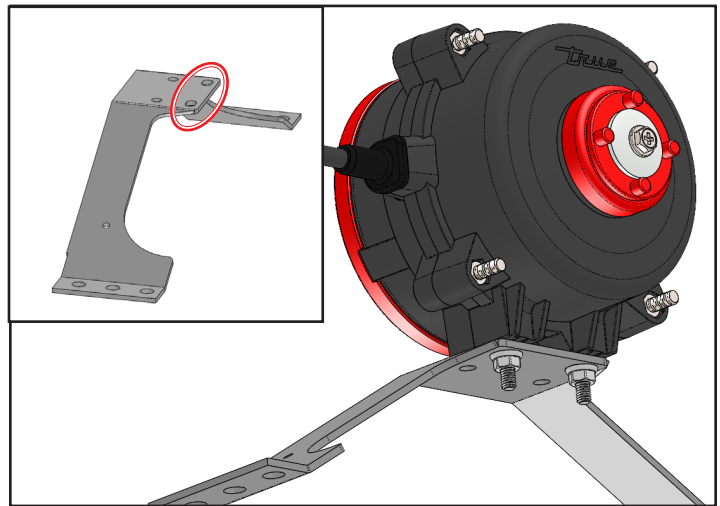

Fig. 7. Replacement fan motor installed on an A-bracket. Use the front mounting holes (circled).
3. With the provided hardware, install the fan motor on the A-bracket. See fig. 7.